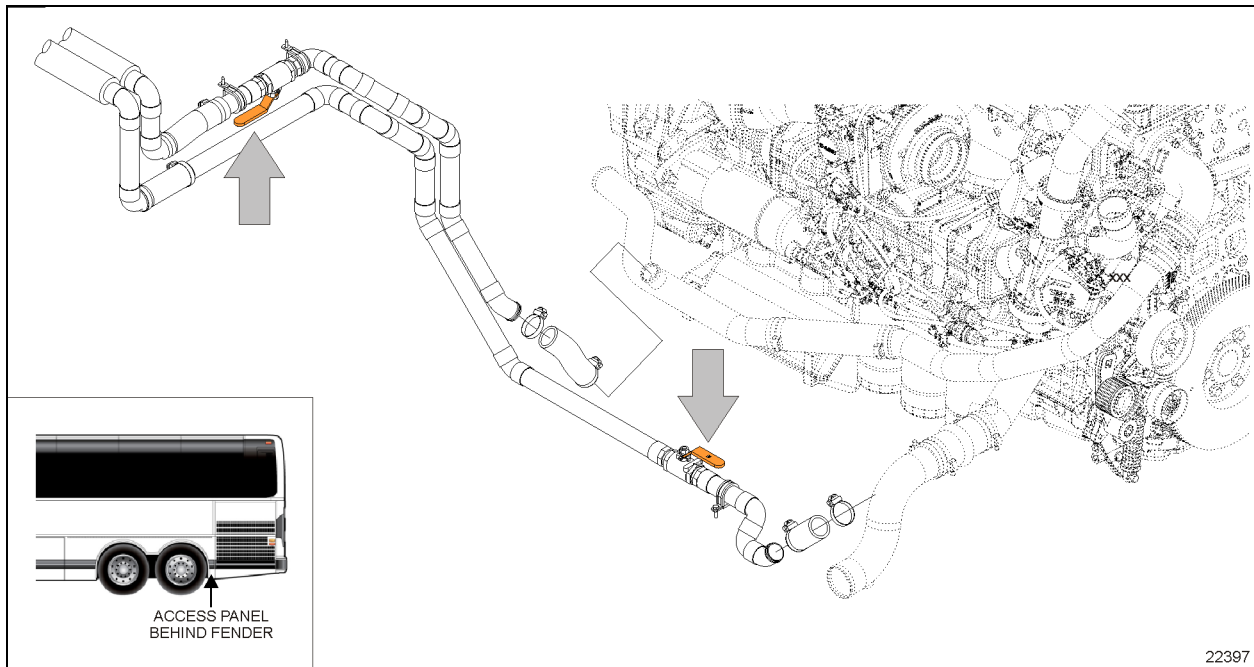
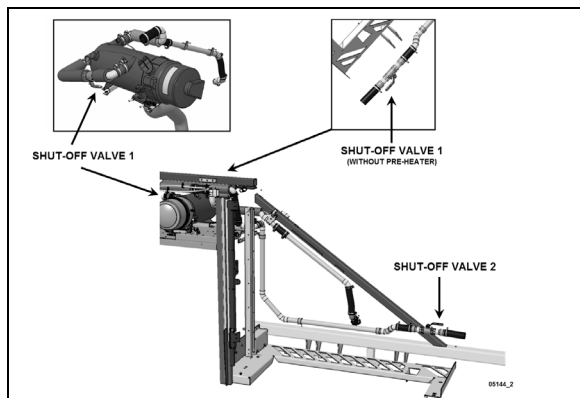

FIGURE 92 X3 SERIES HEATER LINE SHUT-OFF VALVES- (ALLISON TRANS. PIPING ARRANGEMENT SHOWN)
FIGURE 93: H3 SERIES HEATER LINE SHUTOFF VALVES
3. Close the hot water lines shutoff valves located next the engine on street side (see Figure 92 or Figure 93).
2. Close both heater line shutoff valves (Figure 92 or Figure 93). One is located in the engine compartment, lower road side, near the radiator while the other one is located behind the L.H. hinged rear fender near the preheater.